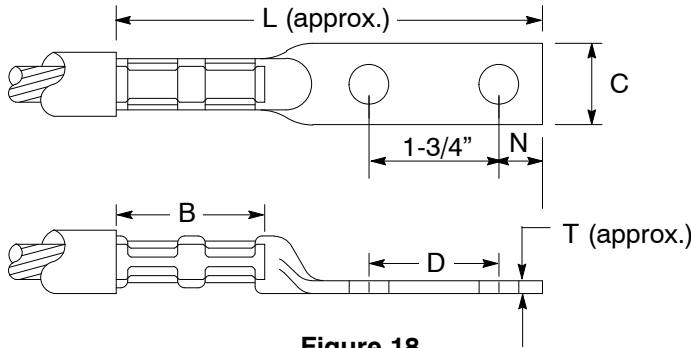

Figure 18
Table 28 Specifications for Terminal Connectors – Copper Cable-to-Flat Bar (Figure 18)
**Table 28 Specifications for Terminal Connectors – Copper Cable-to-Flat Bar (Figure 18 on Page 25)